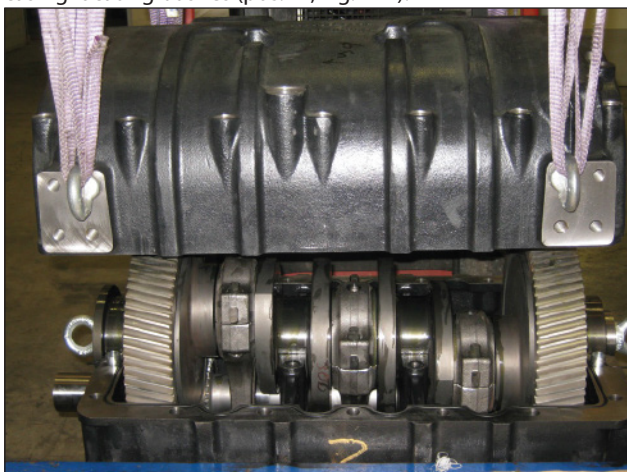
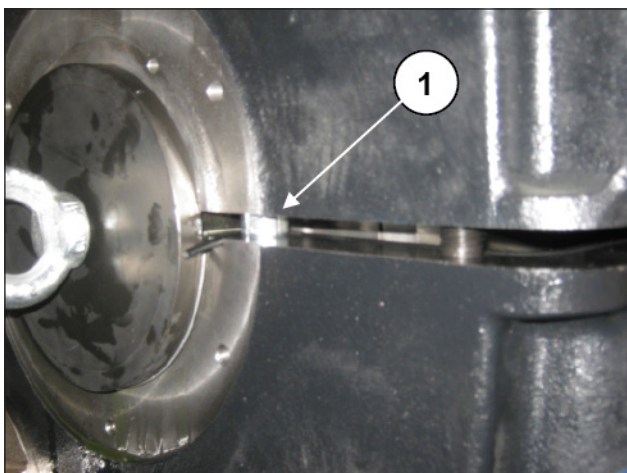

Fig. 110
Fig. 111
Fit the rear casing (Fig. 110) checking alignment on the front casing locating bushes (pos. ①, Fig. 111).